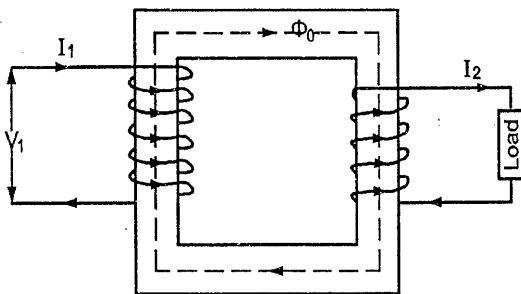

FIG. 3.20(d)
- (4) Thus the flux is restored to its original value ϕ_0 as shown in Fig. 3.20(d). Hence when the transformer is on load, the primary winding has two currents in it. One is I_0 and the other is I_2' , which is in antiphase with I_2 and K times in magnitude. The total primary current (I_1) is the vector sum of currents I_0 and I_2' .